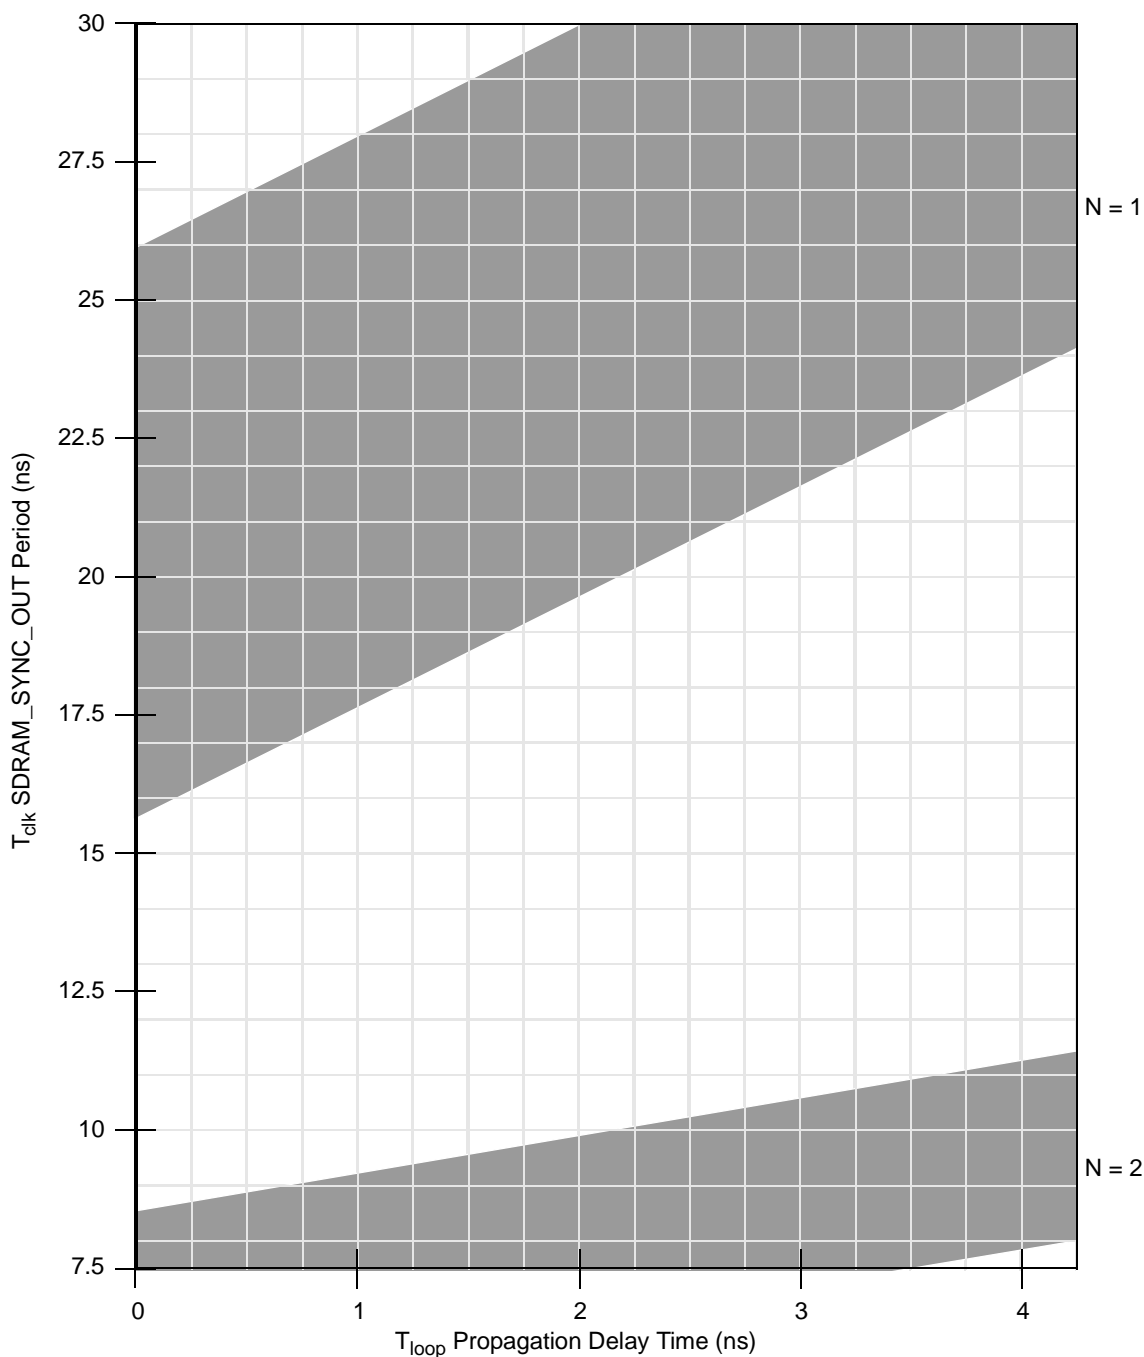
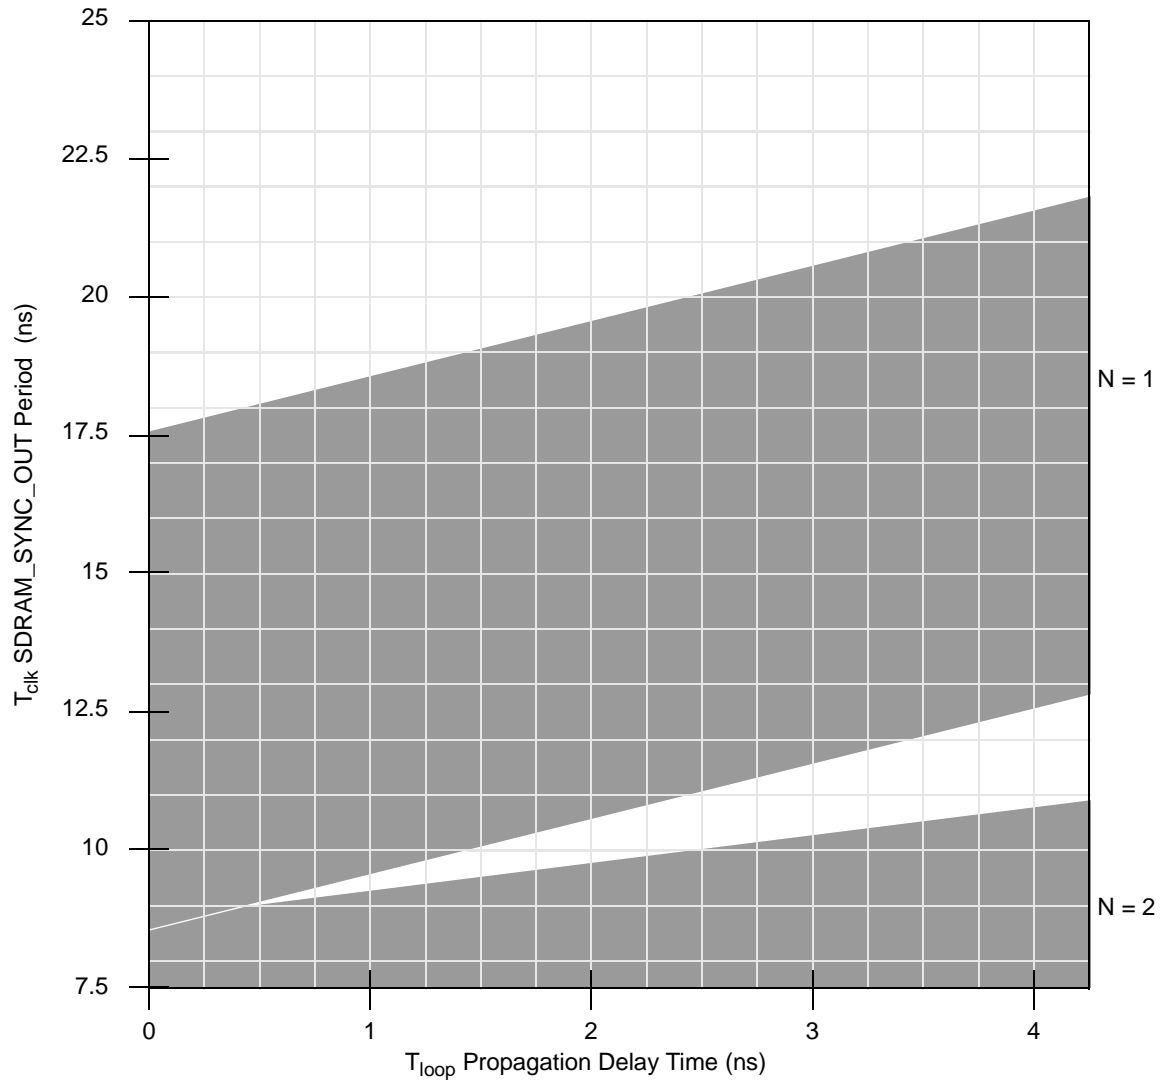

Figure 7. DLL Locking Range Loop Delay vs. Frequency of Operation for DLL_Extend=1 and Normal Tap Delay
Figure 10. DLL Locking Range Loop Delay vs. Frequency of Operation for DLL_Extend=0 and Max Tap Delay
6. DLL_EXTEND is bit 7 of the PMC2 register <72>. N is a non-zero integer (see Figures 5 through 8). T_{clk} is the period of one SDRAM_SYNC_OUT clock cycle in ns. T_{loop} is the propagation delay of the DLL synchronization feedback loop (PC board runner) from SDRAM_SYNC_OUT to SDRAM_SYNC_IN in ns; 6.25 inches of loop length (unloaded PC board runner) corresponds to approximately 1 ns of delay. $T_{dp(max)}$ and $T_{dp(min)}$ are dependent on tap delay. See Table 9 for values of $T_{dp(max)}$ and $T_{dp(min)}$. See Figure 7 through Figure 10 for DLL locking ranges. Refer to Motorola Application Note AN2164, *MPC8245/MPC8241 Memory Clock Design Guidelines*, for more details on memory clock design and an explanation of how T_{dp} is defined.
Figure 7 through Figure 10 show the DLL locking range loop delay vs. frequency of operation. These graphs define the areas of DLL locking for various modes. The grey areas represent where the DLL will lock.
7. T_{OS} represents a timing adjustment for SDRAM_SYNC_IN with respect to *sys_logic_clk*. Due to the internal delay present on the SDRAM_SYNC_IN signal with respect to the *sys_logic_clk* inputs to the DLL, the resulting SDRAM clocks become offset by the delay amount. The feedback trace length of SDRAM_SYNC_OUT to SDRAM_SYNC_IN must be shortened by this amount relative to the SDRAM clock output trace lengths to maintain phase-alignment of the memory clocks with respect to *sys_logic_clk*. Note that the DLL locking range graphs of Figure 7 through Figure 10 compensate for T_{OS} and there is no additional requirement to shorten T_{loop} by the duration of T_{OS} . Refer to Motorola Application Note AN2164, *MPC8245/MPC8241 Memory Clock Design Guidelines*, for more details on accommodating for the problem of T_{OS} and trace measurements in general.